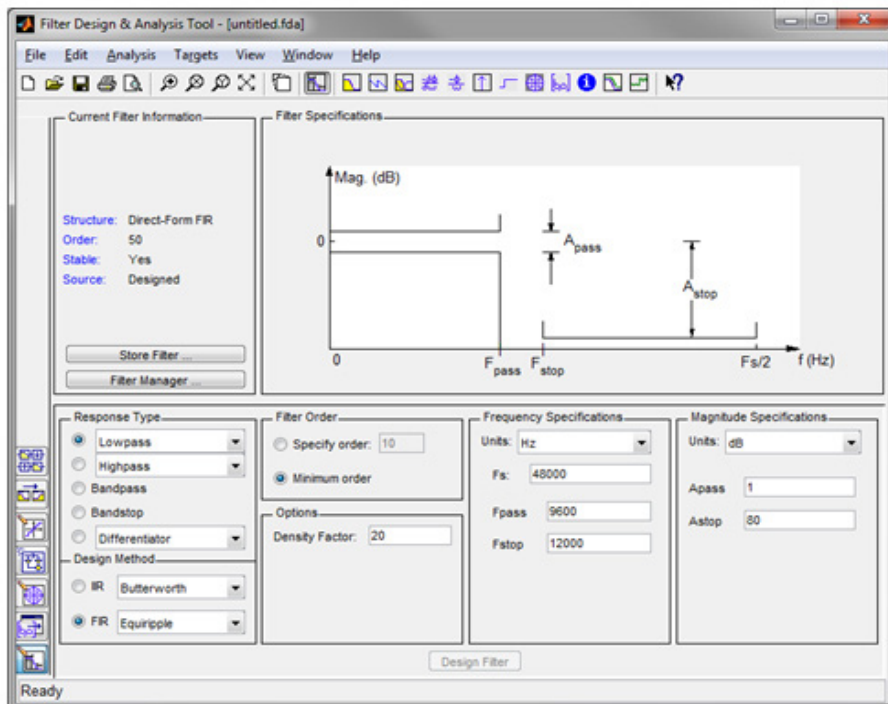

Figure 2. Filter Design and Analysis Tool
2. In the command window, type "fdatool" to start Filter Design and Analysis Tool in MATLAB (Figure 2)